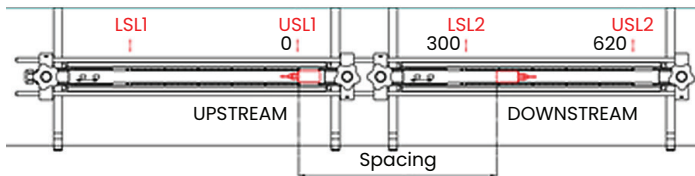
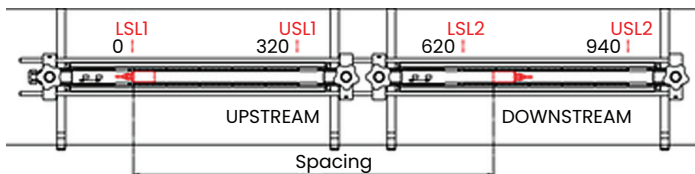

Figure 17: Transducer spacing of 320 to 620 mm with two fixtures
Figure 18: Transducer spacing of 620 to 940 mm with two fixtures
- See figure 17 and figure 18 below for examples of a completed installation in the following situations: